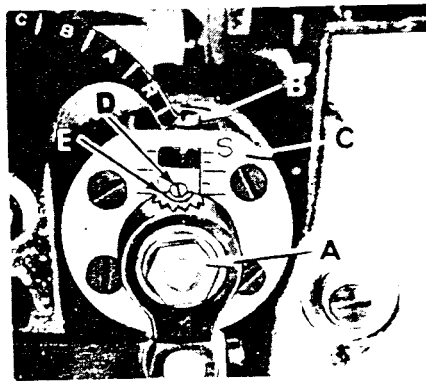

Fig. 11
Set the stitch to the required length. This is accomplished by loosening locknut (A, Fig. 11) (it has a left hand thread) and turning the stitch adjusting screw (B). Turning screw (B) clockwise shortens the stitch and turning it in a counterclockwise direction lengthens the stitch. The head of the mainshaft (C) is marked with an "S" and an "L", moving the stitch regulating stud toward the "S" shortens the stitch and toward the "L" lengthens the stitch. Retighten locknut (A). To prevent destructive damage to the feed drive bearing, the Key screw (D) must engage the "U" shaped key slot in the ferrule (E).